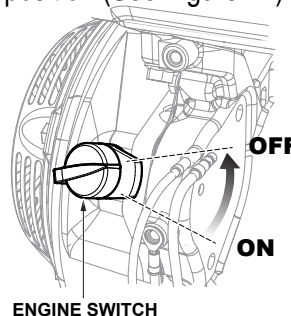

Figure 17. Engine ON/OFF Switch (OFF)
- After the engine cools, turn the engine **ON/OFF** switch to the **OFF** position (See Figure 17).